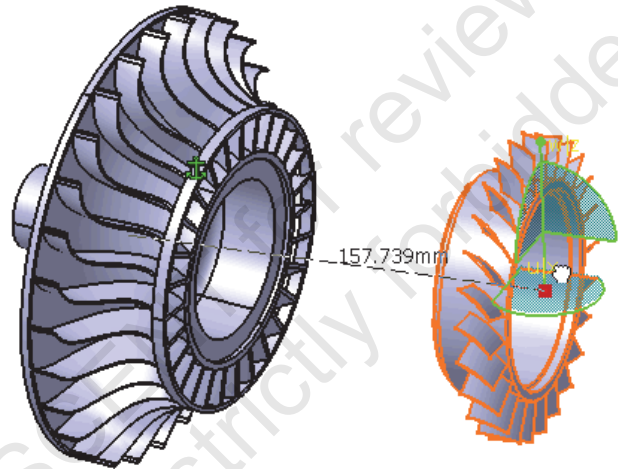

Figure 1–33
5. Drag the compass to reposition **6thStage**, as shown in Figure 1–33.